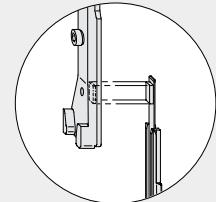

Figure 1
- > A** Insert slider (page 2: 36) with operating rod S4 and corner drive VSU/BSO (37) vertically on the BSO.
- B** Insert locking bolt TBT (21), stay LM 4200 (20) and operating rod S3 horizontally on the VSO.
- > C** Insert locking bolt TBT (21), stay LM 4200 (20) and operating rod S3, stay striker MV (42), striker plate (40) and >operating rod (length 234 mm) horizontally on the VSO.
- > D** Couple locking bolt TBT (21) with corner drive VSU/BSO (37). Make sure positioning of coupling piece for corner drive VSU/BSO (37) is correct.
- E** Attach stay hinge (10/16) to stay LM 4200 (20) using countersunk screw M5 x 7 (11/17) (torque 2.5 ± 0.25 Nm).
- > F** Position stay hinge (10/16) according to specifications on page 4 and fasten stay LM 4200 (20) with punching screws.
- > G** Insert slider (36) with operating rod S5 and corner drive VSU/BSO (37) vertically on the VSU.
- H** Insert tilt lock TBT (25), operating rod S1, coupling bracket LM (30/34), operating rod S2 and corner drive VSO (23.1/23.2) vertically on the VSO.
- > I** Couple tilt lock TBT (25) with corner drive VSU/BSO (37). Make sure positioning of coupling piece for corner drive VSU/BSO (37) is correct (Figure 1).
- J** Couple corner drive VSO (23.1/23.2) with operating rod S3 ">>operating rod 234" and secure with clamping piece EUL (22).
- K** Insert run-up block (28) horizontally on the VSU (not applicable for MV on the VSU).
- L** Attach handle LM lockable/TBT (1) with cheese head screws M5 x 12 (31) (torque 2.5 ± 0.25 Nm). Make sure the handle catch closes into the coupling bracket (30).
- M** Press bottom hinge pin (4) into corner hinge (5) DIN right or DIN left.
- N** Insert clamping piece E (6) vertically on the BSU and attach corner hinge (5) using countersunk screws M5 x 8.5 (3) (torque 2.5 ± 0.25 Nm).